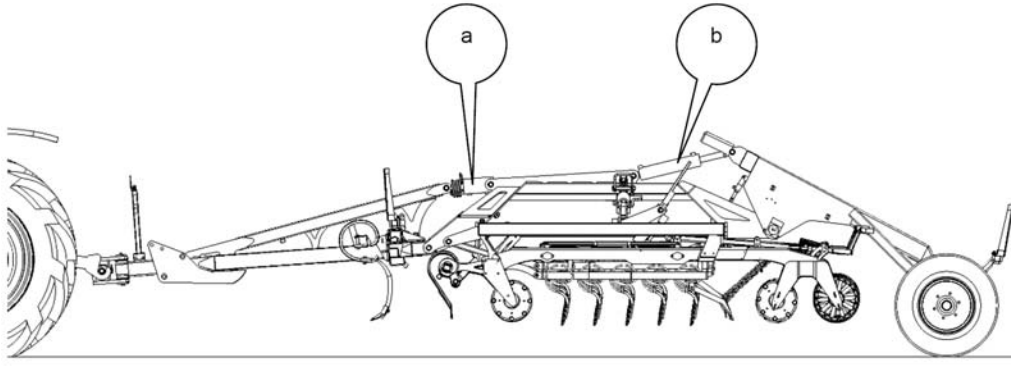

Fig. 11 Position on headlands
After establishing the proper working position of the cultivator, in order to lift the machine on headlands, use the hydraulic system only, changing the positions of cylinders (a) and (b) (Fig. 11).
- lift the machine using the hydraulic line operating the cylinders of the drawbar (a) and trailer (b) (Fig. 11)
- lower the machine using cylinders (a) and (b) (Fig. 11) so that the machine rests on drawbar cylinder plates and the transport lock
- lift the machine using cylinders (a) and (b) (Fig. 11)
Before proceeding to regulating the working depth, lift the unit using cylinders (a) and (b) (Fig. 11).